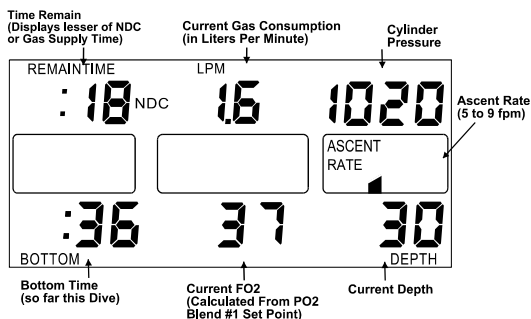

Figure 13b Dive Mode, Normal Dive, PO2 Mode, Primary Screen
**DIVE MODE - SINGLE GAS PO2:** The Dive Mode for the PO2 configuration is the same as the Single Gas Nitrox. The Primary Display Screen will display the current Calculated FO2 of the Breathing Gas, in the lower center of the display, based on the Depth and PO2 Setting. (Figure 13b)